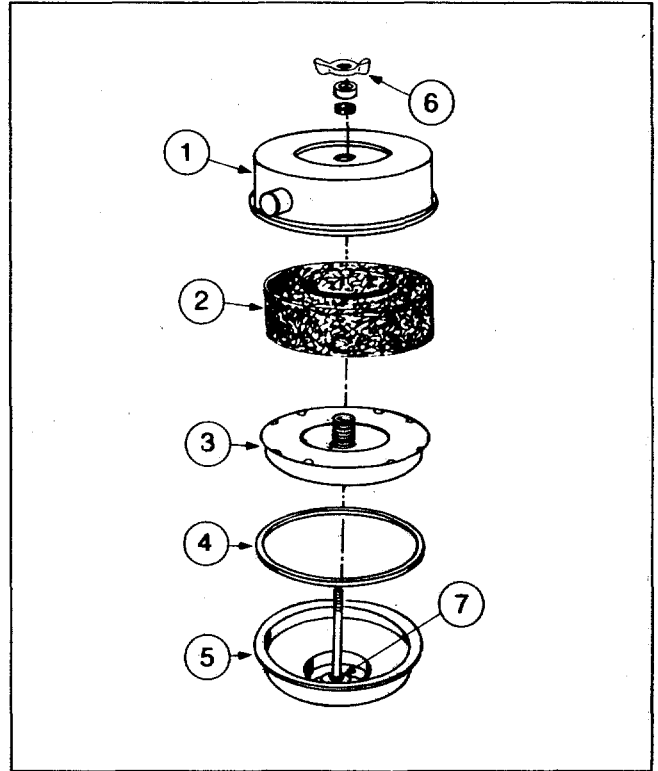

Fig. 2-24, (V51909). Crankcase breather mesh element with vapor barrier
1. Remove the wing nut (6, Fig. 2-24), flatwasher and rubber washer securing the cover (1), to the breather body (5).
2. Lift off the cover and life out the breather element (2), vapor element (3), and gasket (4).
5. Install cleaned or new breather element (2, Fig 2-24) and cleaned vapor element (3) to breather body (5).
6. Install the rubber gasket (4) in the cover (1); position the cover assembly to the body (5).
7. Install the rubber washer, flatwasher and wing nut (6); tighten securely.